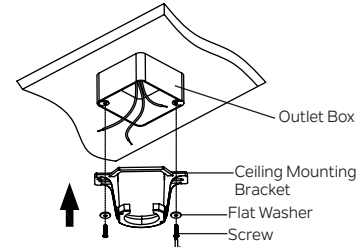

Fig. 7
Step 1. Before attaching fan to outlet box (not included), ensure the outlet box is securely fastened to at least two points to a structural ceiling member (a loose box will cause the fan to wobble). Pass the 120 volt supply wires from the ceiling outlet box through the center of the ceiling mounting bracket. Install mounting bracket to outlet box in ceiling using the screws and washers included with the outlet box. (Fig. 7)